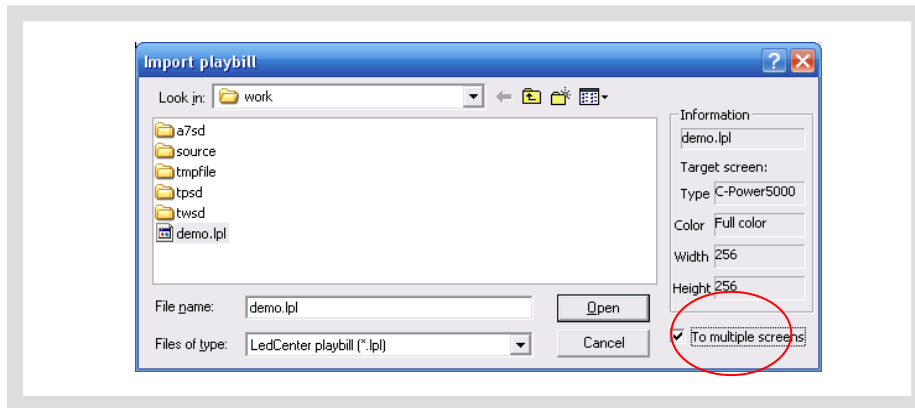
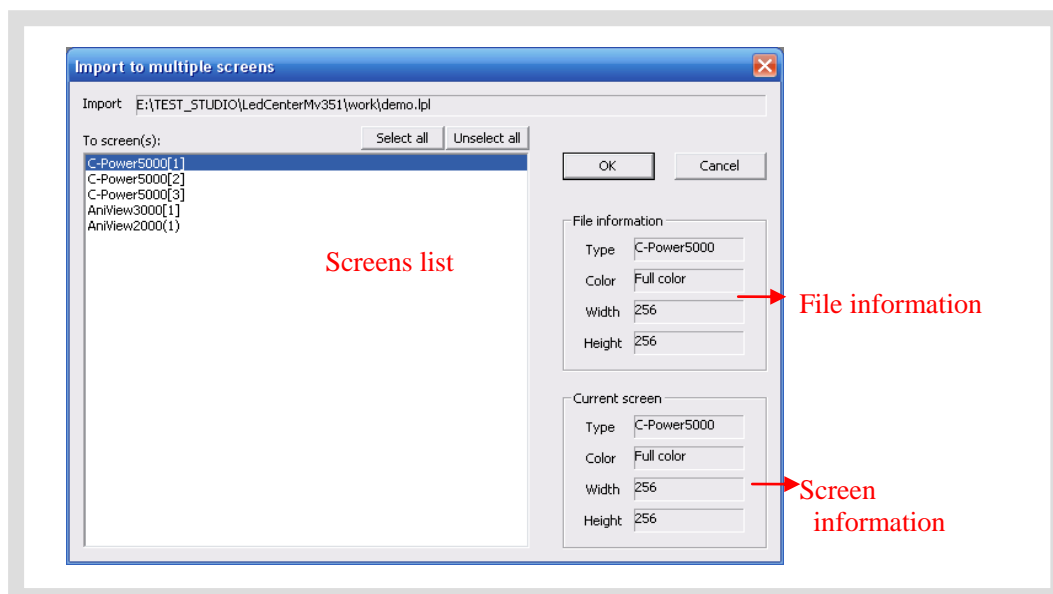

Figure53 Import playbill
Figure54 Import to multiple screens
- 2) In the dialog box “Import playbill” (as shown in Figure53), select the program file (*.lpl) to be imported. The “Information” at right side of the dialog box shows the screen parameters of the program file. Confirm the imported program consistent with the parameters of current screen.
- 3) Import to multiple screens: if select the option “To multiple screens” as shown in Figure53, a dialog box “Import to multiple screens” as shown in Figure54 pops up after a file is selected. Hold Ctrl key and click the screen list, user can select multiple screens, and then import the program file to multiple screens which is consistent with the file information.